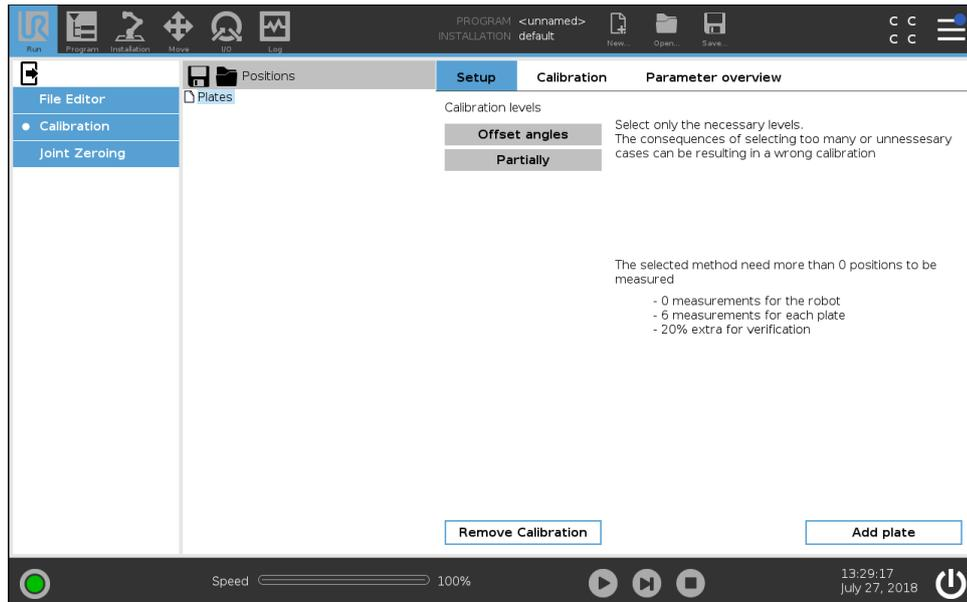

Figure 1.4: Add a plate for the hole positions.
- (5) On the bottom right of the screen, tap **Add plate**, (see Figure 1.4).